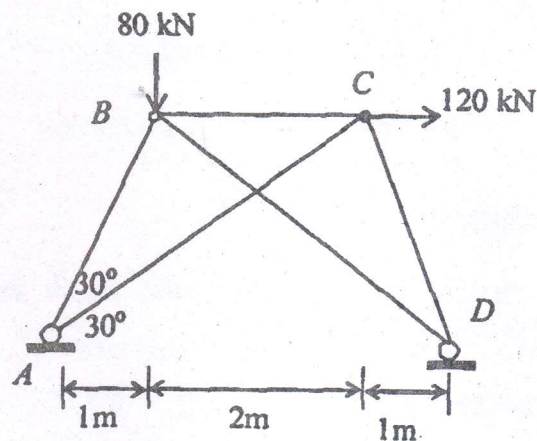

Fig. 2
12. Analyze the indeterminate pin-jointed frame as shown in figure 2. by the force method. (16)